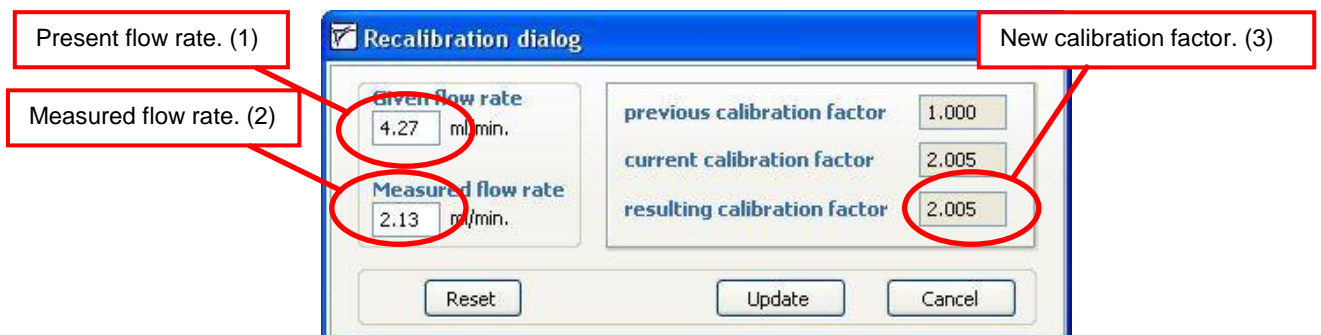

Figure 27 Recalibration Dialog
- Now you can use this value to update the PumpControl software in the 'Recalibration factor...' menu. To do so, click on the 'Recalibration factor...' button and insert the preset flow rate (control 1 in Figure 27) and also the measured one (control 2). You will end up with a new calibration factor (indicator 3, in Figure 27), which will correct the flow rate, the shear stress, and the shear rate.